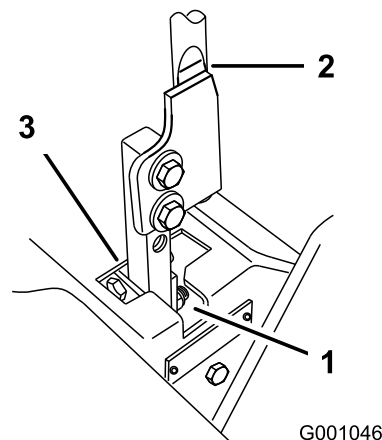

Figure 84
5. Move the lever to the neutral position but not locked (Figure 84).
6. Pull the lever back until the clevis pin (on arm below pivot shaft) contacts the end of the slot (just beginning to put pressure on the spring) as shown in Figure 84.
7. Check where the control lever is relative to the notch in the console (Figure 84).